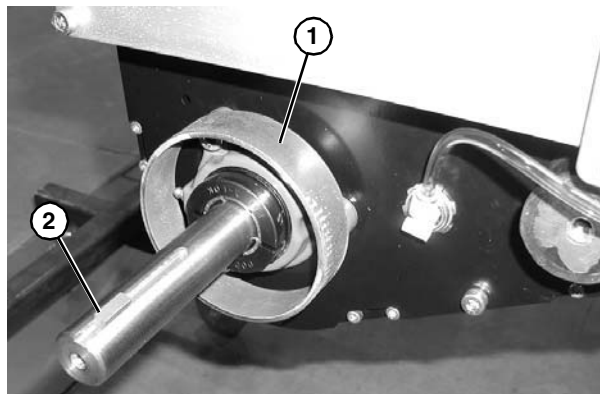

Figure 78
4. Remove spacer ring (**Figure 78, item 1**) and key (**Figure 78, item 2**).